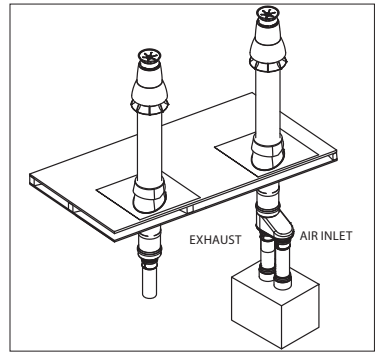

Figure 26
- Assemble the PolyPro Single-Wall venting according to the DuraVent PolyPro Single-Wall instructions beginning on page 7. (**Fig.26**)